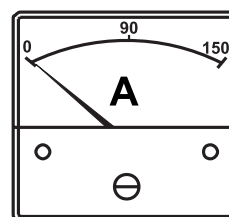

Figure 50. Ammeter (No Load)
- The ammeter (Figure 50) will indicate **zero amps** with no load applied. When a load is applied, the ammeter will indicate the amount of current that the load is drawing from the generator.